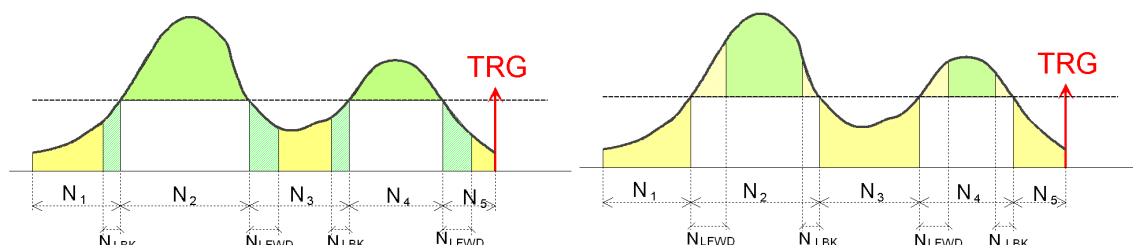

Fig. 7.9: Example of non-overlapping N_{LBK} and N_{LFW} in case of positive logic (left) and negative logic (right).
1. In the simplest case N_{LBK} and N_{LFW} **do not overlap**. Fig. 7.9 reports the case of positive logic on the left, and negative logic on the right. The green areas correspond to the over threshold samples, while the yellow ones correspond to the under threshold samples: